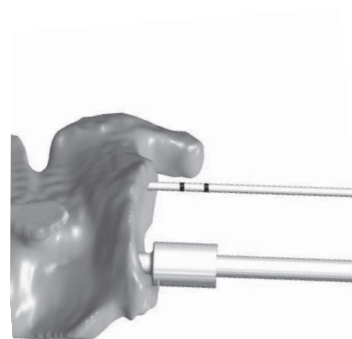

Fig. 11
**WARNING:** In the event of a steep inclination and version angle, the 6mm Cannulated Drill may not contact the glenoid surface (Fig 11). If such a situation is suspected, redrill with the 6mm Cannulated Drill after complete surface reaming to ensure drilling is complete.